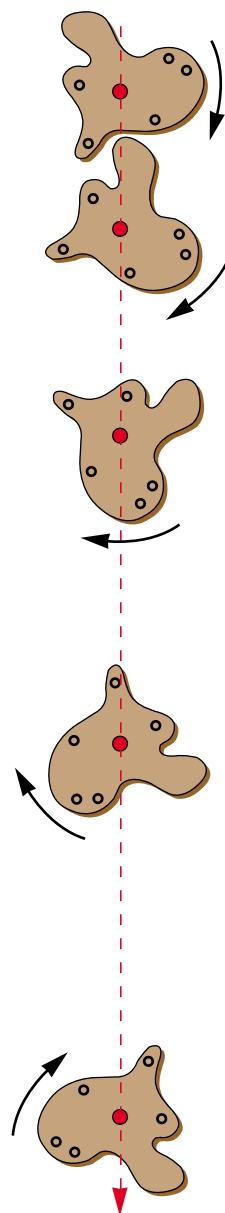

Figure 4.63 Observe the position of the central point of the rotating object while it falls.
7. Examine Figure 4.63 in which the cardboard object is rotating while it falls. Notice the path of the central point (centre of gravity.) Choose one other point on the cardboard. In your mind, picture its path as the object rotates and falls. (Do not write in this book.)
In the activity, did you relate the point where you balanced your cardboard object with the central point that fell in a straight line in Figure 4.63? These points have the same property. In both cases, the force of gravity appeared to act directly on these points. Any point with this characteristic is called the **centre of gravity**. All objects have a centre of gravity. When an object falls, the centre of gravity falls in a straight line. All other points rotate around the centre of gravity while the object falls. Study Figure 4.65 to better understand why the centre of gravity is the balance point.